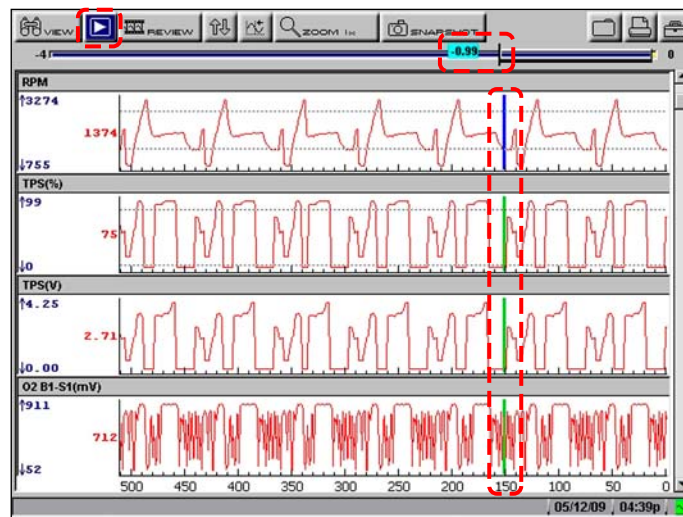

Figure 5-34 Sample PID Triggering condition setting(s) met
Once data collection is finished, graphing automatically stops and the screen changes as follows (Figure 5-34):
- Select the Play button (Figure 5-34).